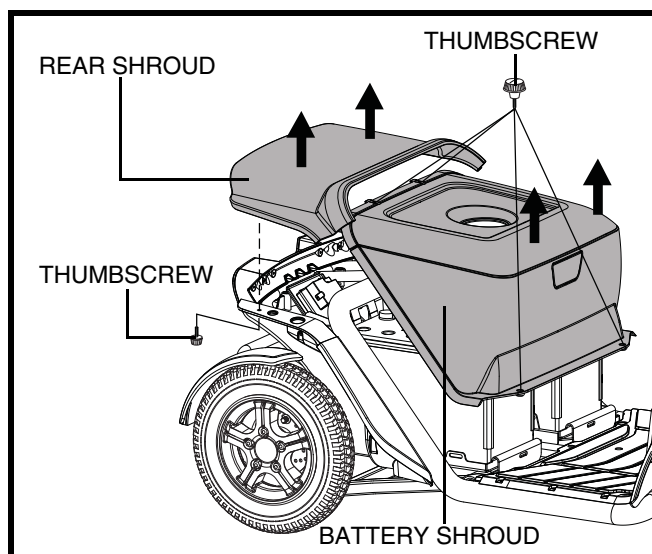

Figure 14. Shroud Removal/Installation
2. Remove the rear shroud by lifting it straight up and off the scooter. The shroud is secured to the scooter with reusable fasteners and two thumbscrews. **See figure 14.**
3. Remove the battery shroud by removing the four (4) thumbscrews that secure it to the scooter frame, and then lifting the shroud straight up and off of the scooter. **See figure 14.**